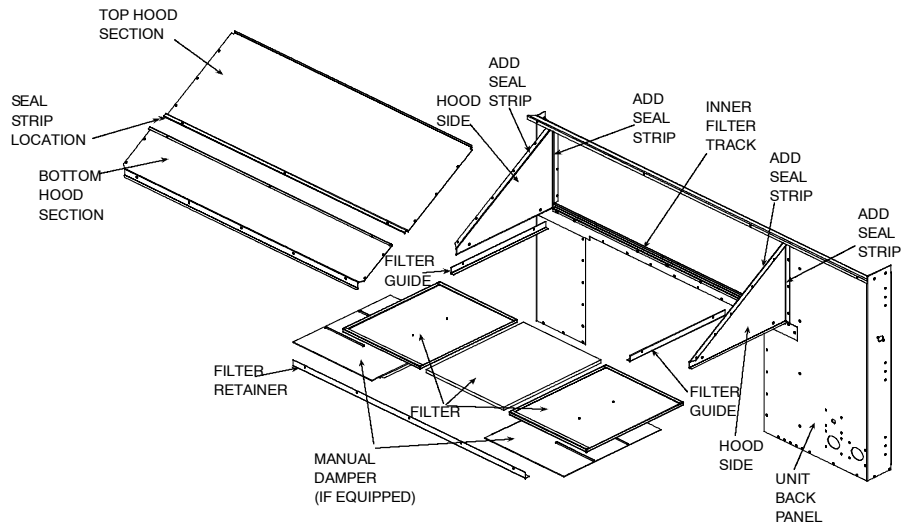
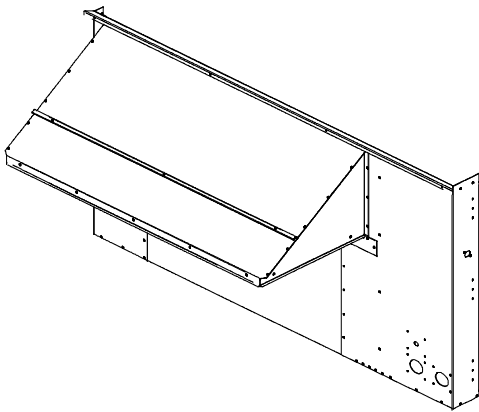

Fig. 14 - Outdoor Air Hood Details
Fig. 15 - Outdoor Air Hood Assembled
5. Apply seal strip (provided) to back flange of both hood sides where hood side connects to the unit back panel. (See Fig. 14.)
6. Apply seal strip (provided) to top flange of both hood sides where hood sides connect to the hood top panels. (See Fig. 14.)
7. Install hood sides to the back panels using the screws from Step 2. The sloped flanges point outward. The drip edges of the side panels should face outward as well. The filter guides should face inward to hold the filters in place. (See Fig. 14.)
8. Apply seal strip along the entire length of the bottom flange of the hood top. (See Fig. 14.)
9. Install the bottom part of the hood top using 4 screws provided. (See Fig. 14.)
10. Remove the packaging from filters (3) and install into the filter tracks. Slide the filters to the sides then place the last filter into the center of the filter track.
11. Install the filter retainer track along the bottom edge of the outdoor air hood using 4 screws provided. (See Fig. 14.)
12. Install top section of the outdoor air hood using 9 screws provided. (See Fig. 14.) See Fig. 15 for a picture of the assembled outdoor air hood.